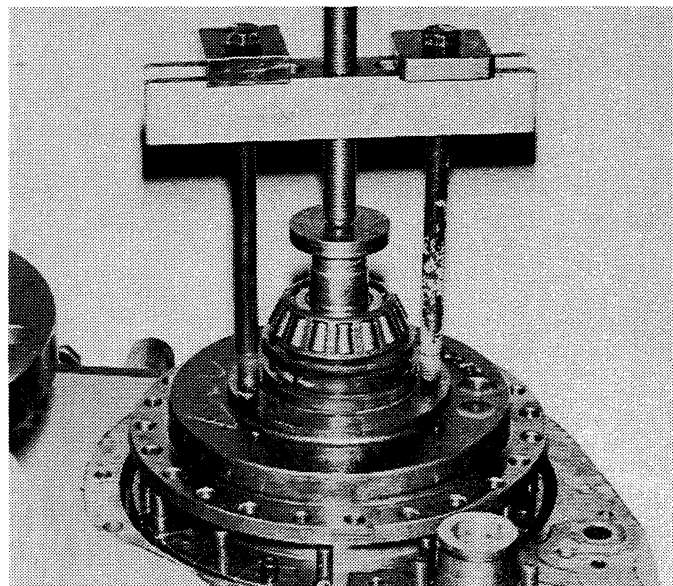

Figure 6-12. Removing Clutch Cylinder and Roller Bearing.
3. Use three 3/8-16 x 3 in. screws as pushers to loosen the clutch cylinder (Figure 12-2, 11). Use a puller to remove the clutch cylinder. See Figure 6-12. Roller bearing (Figure 12-2, 19) inner race will be forced off the clutch shaft with the clutch cylinder.
4. Remove the bearing spacer (20).